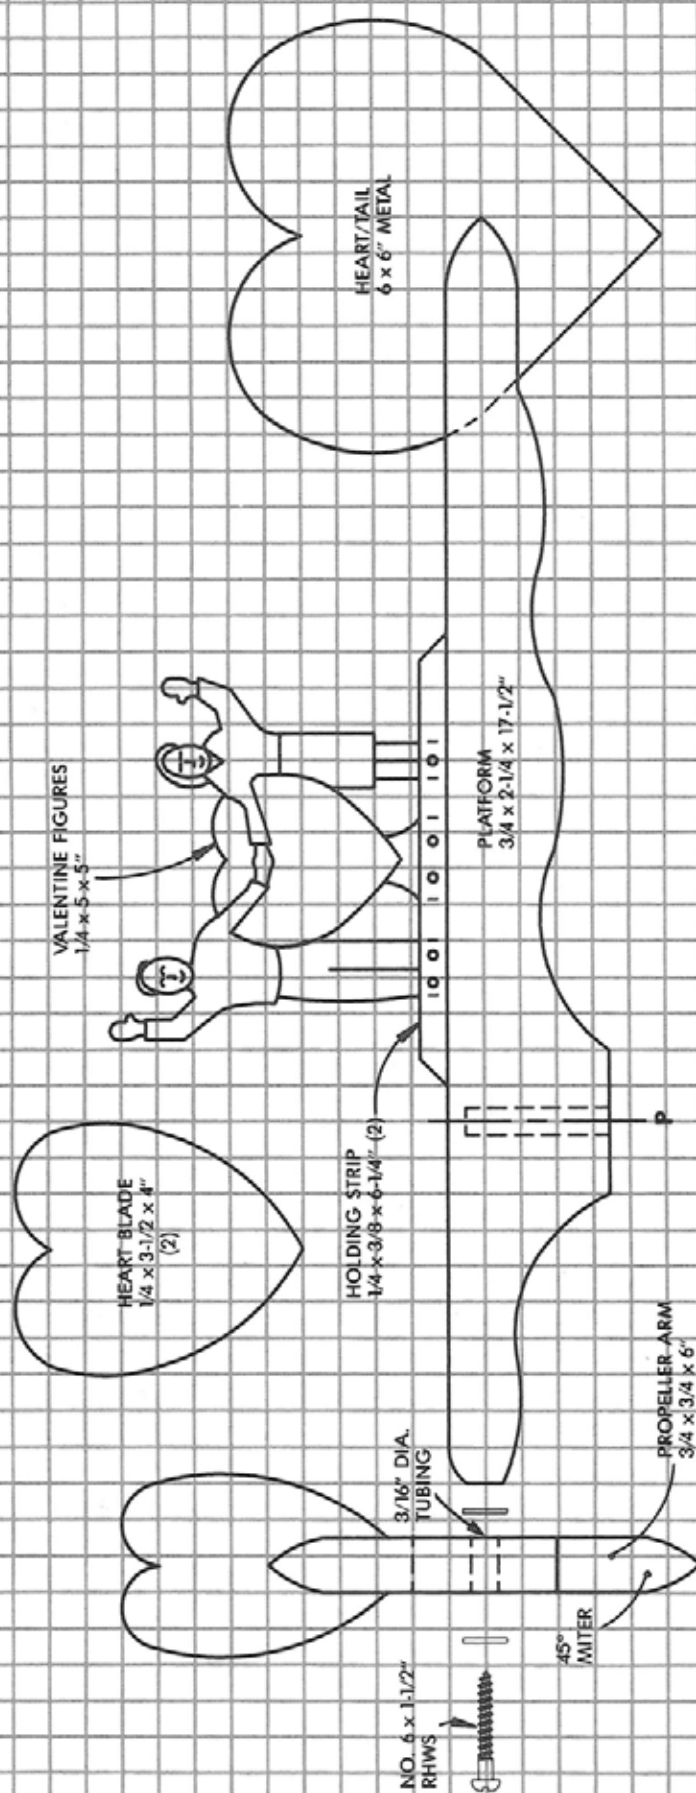

Figure 5-2. Plan for Valentine whirligig.
1. Cut out the platform and mark the locations of the pivot socket 5 in. from the front. The holding strips start $5\frac{1}{2}$ in. from the front, and the tail slot 3 in. from the rear (Fig. 5-2). Drill a pilot hole for the propeller screw. Cut out the tail